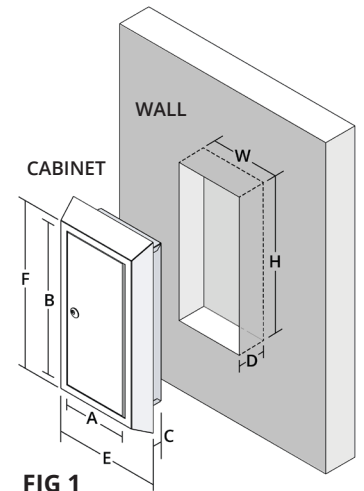
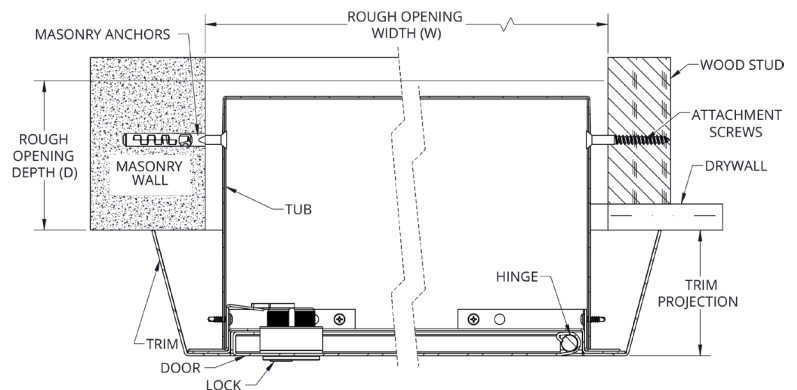

FIG 1
FIG 3
2. Frame in above, below and at both sides of the cabinet opening with metal or wood framing. Wall opening width (W), height (H) and depth (D) must correspond with dimensions indicated in the catalog or submittal. (FIG 1)
4. If additional holes are needed, mark and drill (2) 3/16" holes through the tub on each side of the cabinet. Cabinet must be attached by at least 4 points, 2 of which must be in framing members.
6. Remove cabinet and drill 5/32" (4mm) holes through studs at marked points. Install plastic wall anchors if needed. For masonry walls, install expansion shields. (FIG 3)